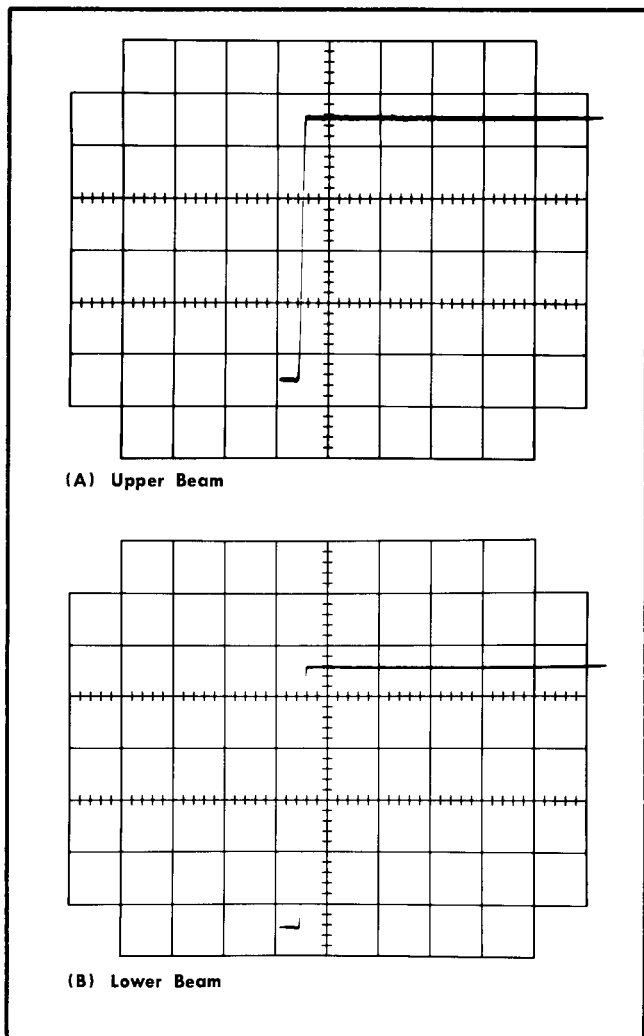

Fig. 5-12. Typical displays, high frequency compensations correctly adjusted.
- ab. Check—Upper Beam CRT display for optimum square corner and flat top, with peak overshoot, rolloff, or ringing $\leq 2.25\%$ of 50 mm or ≤ 1.125 mm. See Fig. 5-12 for a typical display.